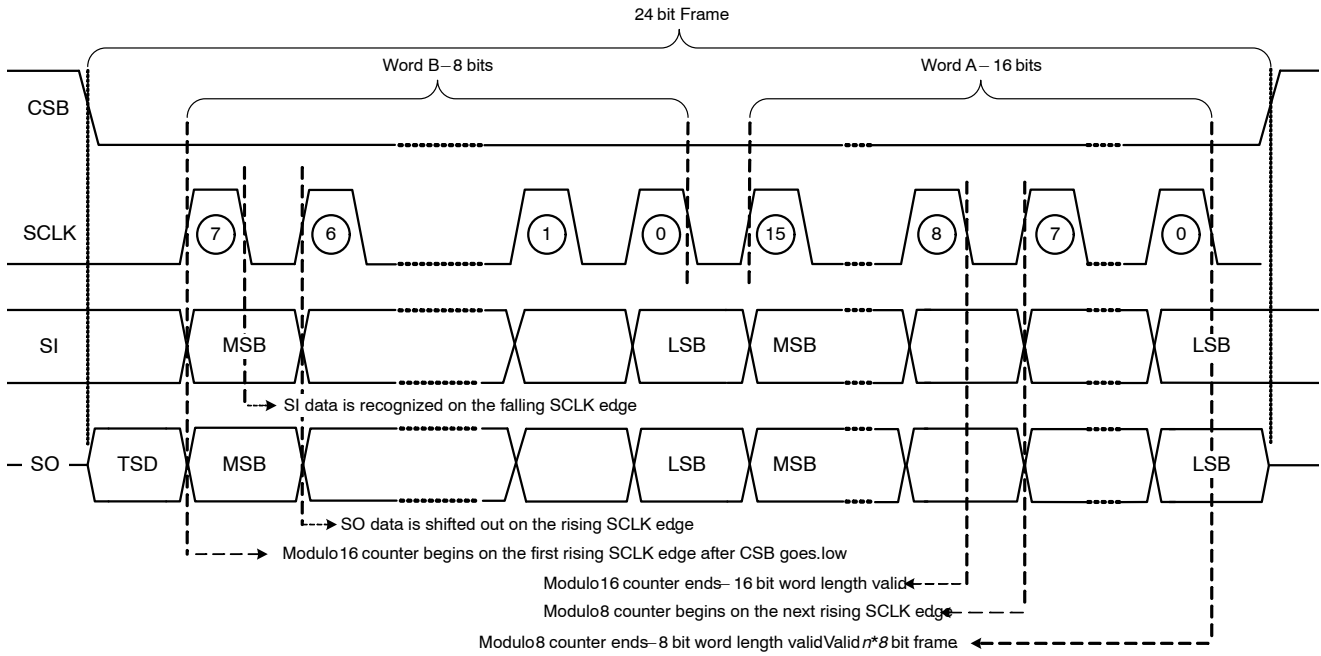

Figure 18. SPI Data Recognition and Frame Detection
Daisy chain communications between multiple of 8-bit SPI compatible IC's is possible by connection of the serial output pin (SO) to the input of the sequential IC (SI). The clock phase and clock polarity respect to the data must be the same for all the devices on the chain. Figure 17 illustrates the hardware configuration of NCV7718 daisy chained with a $n \times 8$ bit (ie $n = 2$; 16 bit) SPI device. The progression of data from the MCU through the sequential devices is also shown. Strict adherence to the frame format illustrated in Figure 18 is required for the proper serial daisy chain operations.